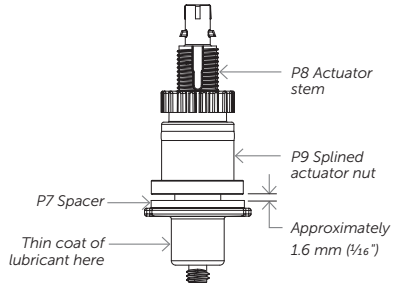

Figure 3.
9. Apply a thin film of lubricant (P22) to the large diameter end of the stem (P8) (see Figure 3).
14. Rotating counterclockwise, thread the splined actuator nut (P9) onto the large thread on the stem (P8) until it stops. Rotate back clockwise 1/2-turn to create ~1.6 mm (1/16") gap between the splined actuator nut (P9) and the spacer (P7) (see Figure 3).